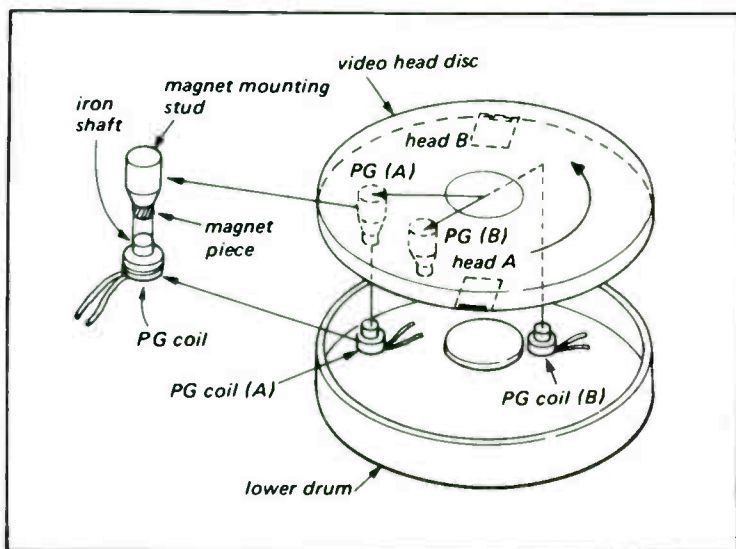

Fig. 3-4. PG pulse generating mechanism.
The PG coils, mounted on the lower drum, generate a pulse whenever the magnetic pole pieces on the rotary video head disc pass above them (Fig. 3-4). As the magnet approaches a PG coil, a positive-going pulse is generated and when it recedes, a negative-going pulse is generated. There are two sets, (A) and (B), of PG coils and their magnetic pole pieces.